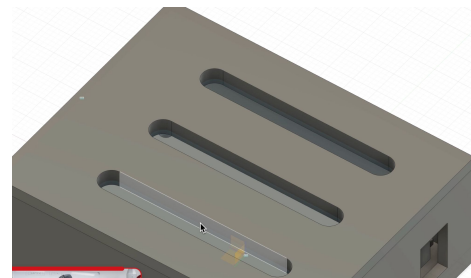

Figure 1.8
- Next, select your extrude cut, choose your axis, and drag to create multiple copies. Adjust the distance or choose Symmetric to evenly distribute the pattern (see Figure 1.8).